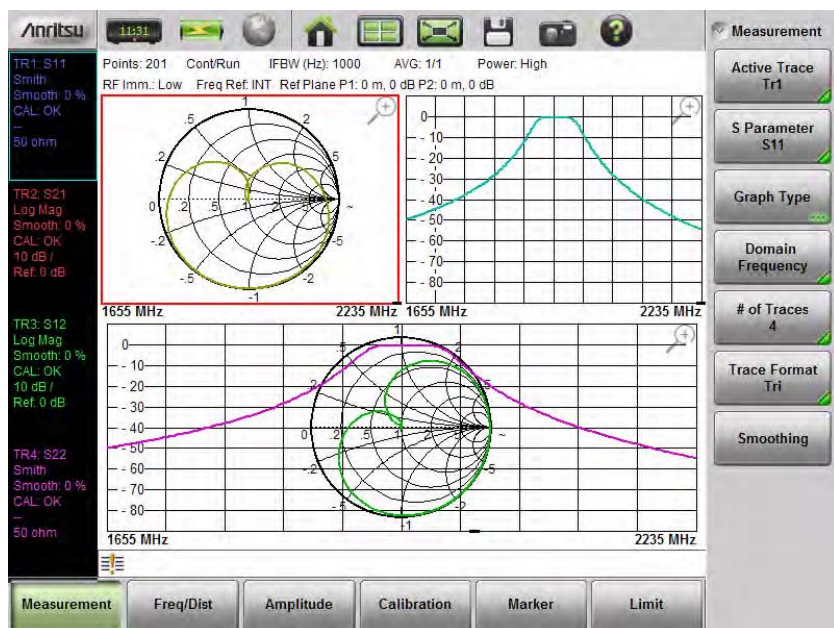

Figure 6-5. Format = Tri, Traces = 4
4. Next change Trace Format to Tri. Note how the 4 traces are assigned on this display. TR3 and TR4 are now overlaid in the bottom half of the display area. Refer to Figure 6-5 on page 6-12.